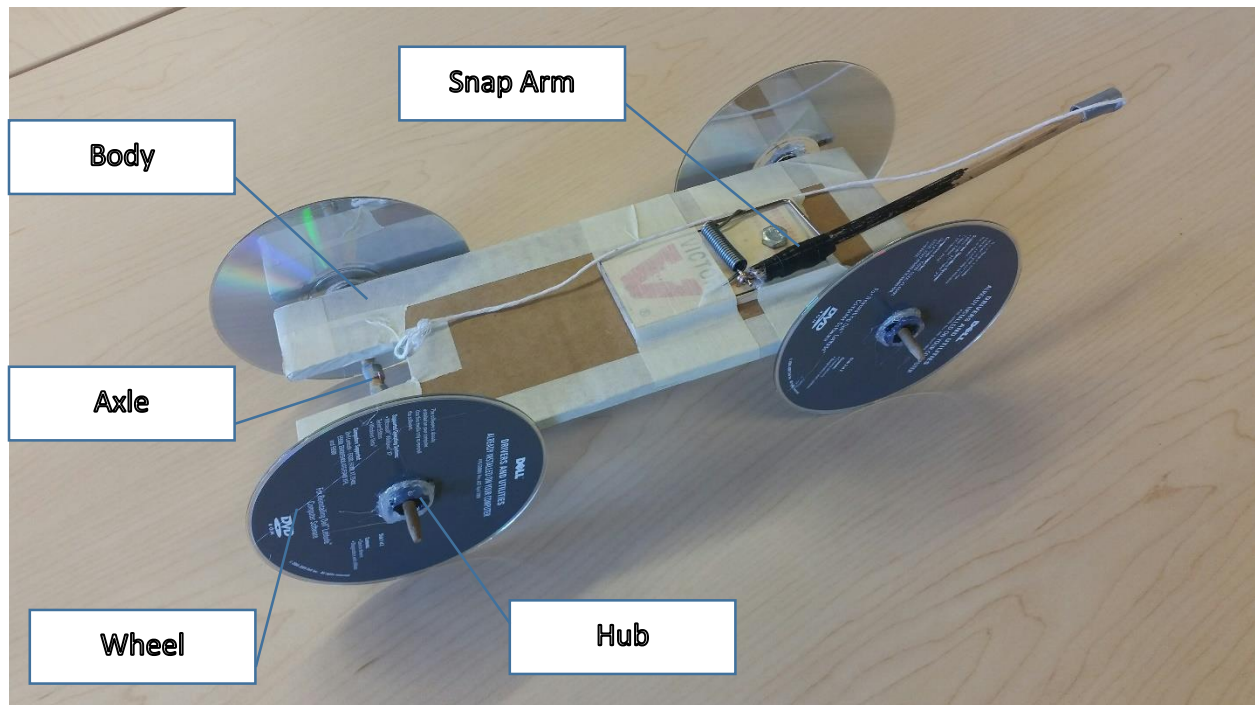

Figure 1 Basic car design
Step 4 – Glue the mousetrap in place on the topside of the car with the glue gun. Be sure the closed snap is facing away from the notch in the cardboard. See Figure 1 for placement.
Step 5 – Use 2 zip ties to secure the  $\frac{1}{4}$  inch dowel to the snap arm and reinforce with tape or hot glue (Figure 1).
Your car should look something like Figure 1. Hook the Loop over the zip tie hook on the rear axle and wind the wheel up. Place the car on the floor and let it go. You will likely have to tinker a bit with it to make it run smoothly.